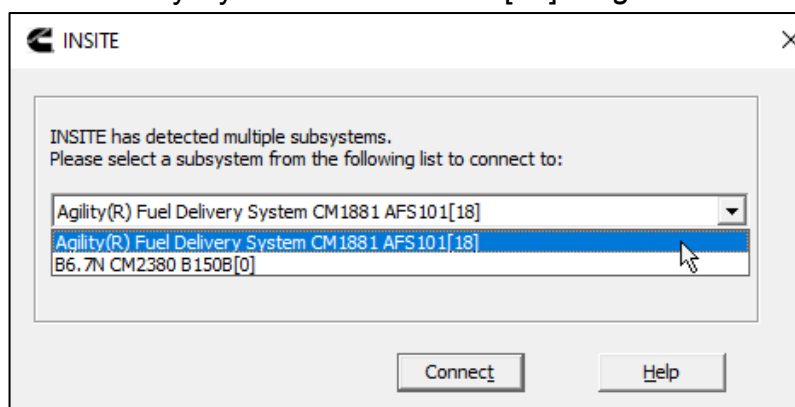

**Figure 6. Select Agility® Fuel Delivery System from Cummins® INSITE™ menu.**
- b. Click on “Agility® Fuel Delivery System CM1881 AFS[18].” *Figure 6*